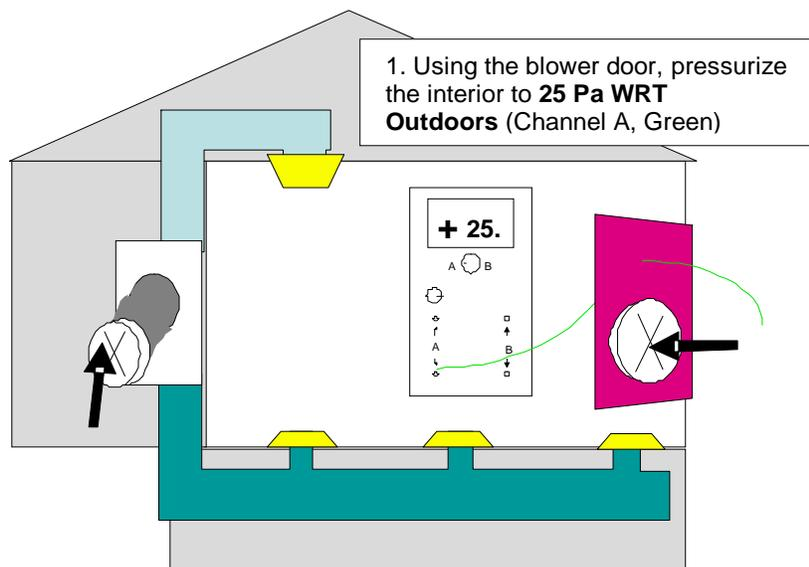

Figure 3: Pressurizing interior to +25 PA WRT outdoors
1. Using the blower door, pressurize the interior to +25 PA WRT outdoors (Figure 3).